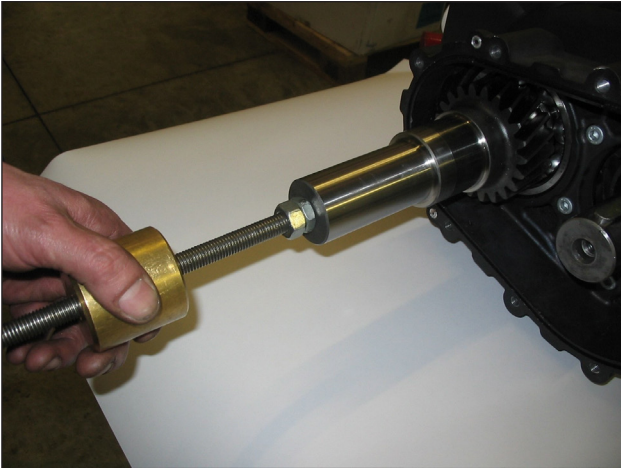

Fig. 20
- Remove the pinion using an extractor hammer to be applied on the M12 hole (Fig. 20).